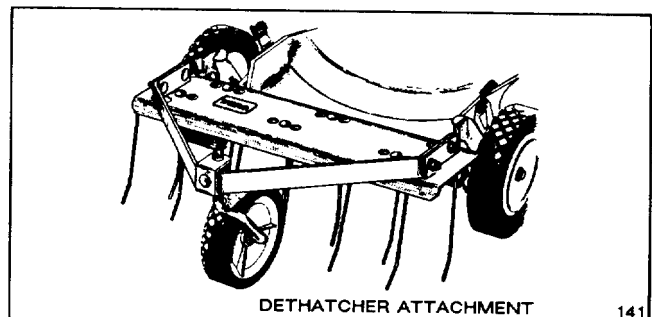

Figure 27
3. Dethatcher Kit, Model 59131 (self-propelled model only)—Installs in minutes. Front mounted for easy maneuverability. As spring tines scratch and vibrate through the grass, thatch is loosened and cut and recut by the mower (Fig. 27).